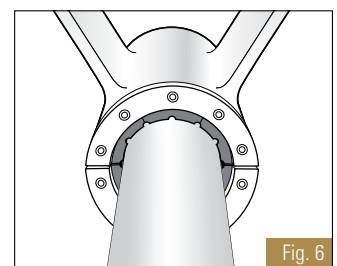

Fig. 6
7. **Install the upper compression head half** and tighten the bolts lightly. (Fig. 6)